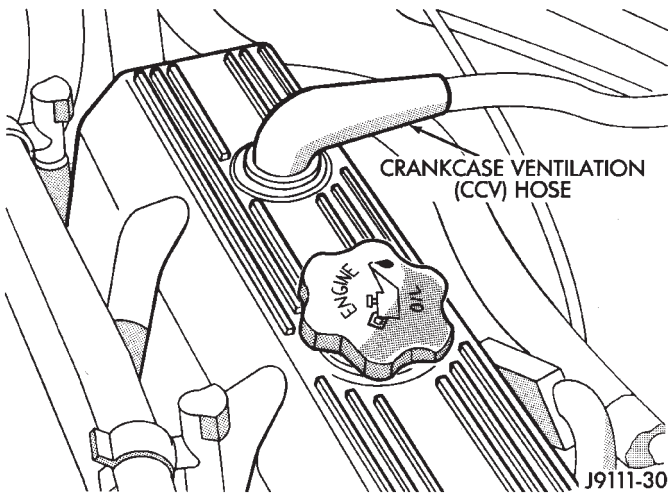

Fig. 12 Crankcase Ventilation (CCV) Hose (2.5L Engine)
(9) Disconnect the electrical connectors. Pull the harnesses away from the manifold.
(10) Disconnect the crankcase ventilation (CCV) vacuum hose and manifold absolute pressure (MAP) sensor vacuum hose connector at the intake manifold.
(11) Disconnect vacuum hose from vacuum port on the intake manifold.
(12) Disconnect CCV hose at the cylinder head cover (Fig. 12).